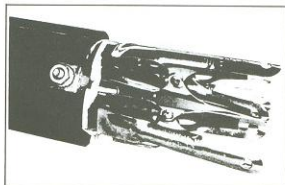

Figure 5-30. Using Clamps to Hold Prestolite Brushes in Place
Reassembly is essentially the reverse of the disassembly procedure. If brushes (9) and (10) and springs (8) have been released from holder, use clips or clamps as shown in Figure 5-30 to hold them in place while installing armature. Note that drive end of frame is notched to fit drive end cover. Line up positioning notch in the brush holder assembly with terminal insulator. Line up positioning mark on commutator end head with motor terminal. Install thru bolts, tightening to 20-25 in-lbs torque.